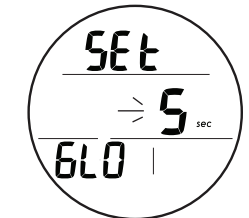

Fig. 65 - SET GLO
**Set Glo (Backlight Duration)**, information includes (Fig. 65):